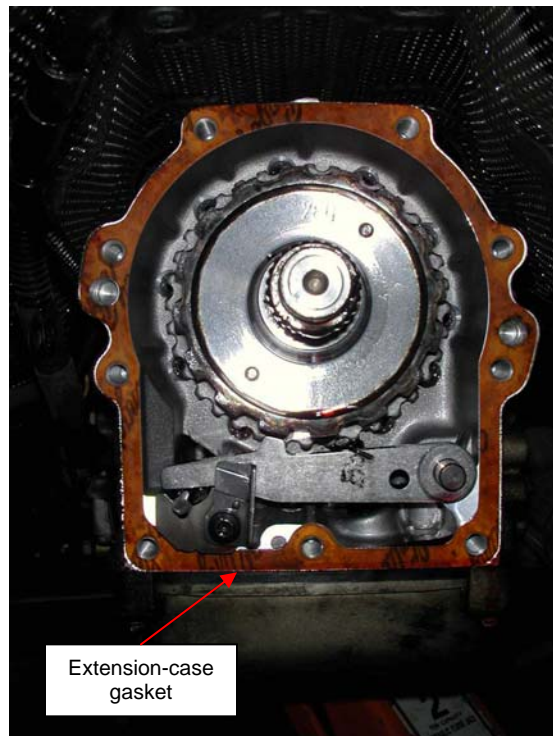

Fig. 13 Extension case gasket
- a. Remove the old gasket material from the transmission and output housing. Mine came off easily with a painter's putty knife (Fig. 13). No gasket sealer was used.